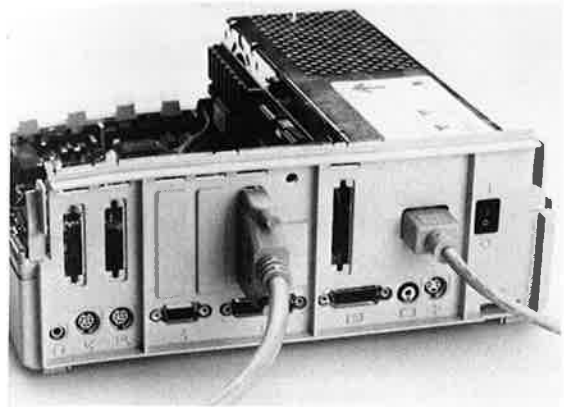

Figure 7 - Attach shielded cable to backplane
4. **Attach the shielded cable** to the connector you have attached to the backplane. (Figure 7.)